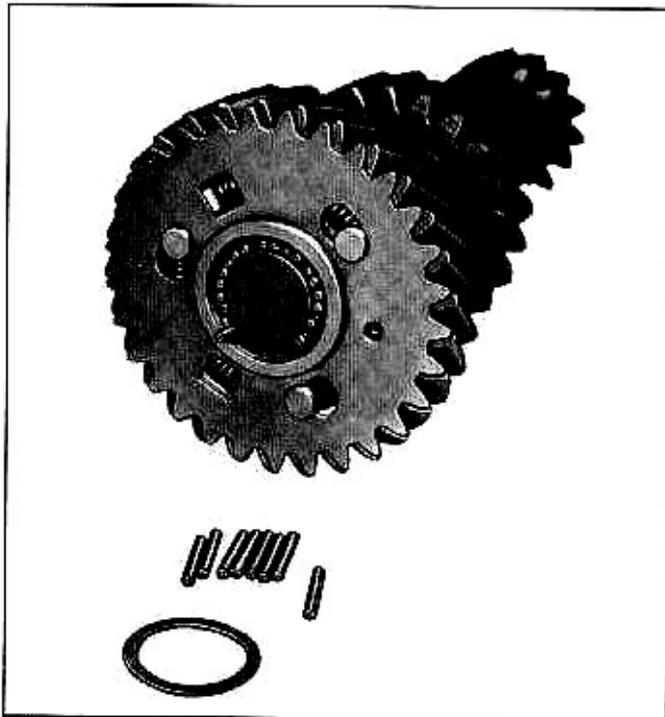

Fig. 7A—Loading Countergear Bearings Using Tool J-22246
Inspect the plate teeth for wear or other damage. The plate and two damper springs are retained to the countergear by three rivets. (Fig. 7A) Disassembly is not recommended.
1. Using Tool J-22246 load a row of roller bearings (27) and a bearing thrust washer at each end of the countergear. Use heavy grease to hold them in place (fig. 7A).